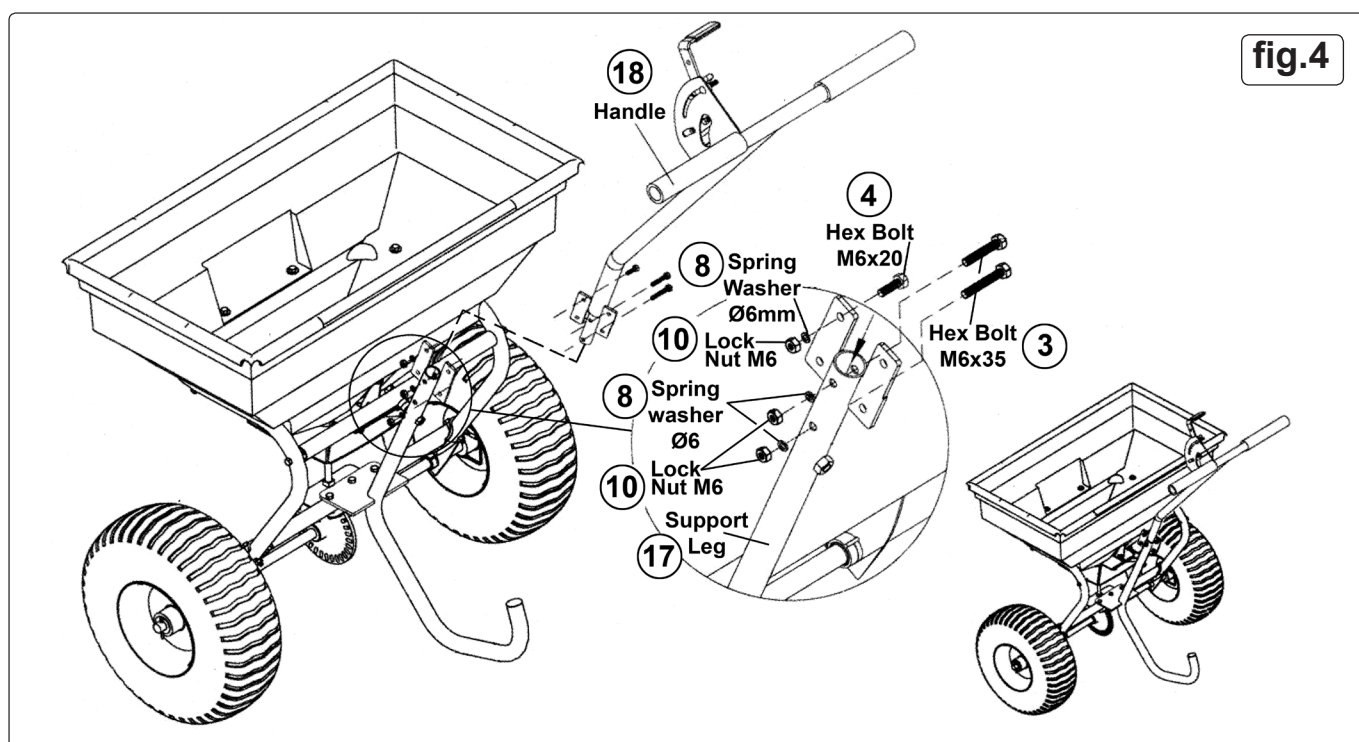

fig.4
4.4 FIXING THE HANDLE TO THE SUPPORT LEG. (refer to fig.4)